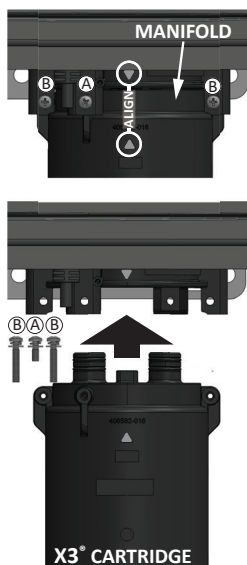

Figure 37 - X3® Cartridge Installation
NOTICE: The X3® cartridge is keyed to only install in one direction. Align the ▲ on the X3® cartridge with the ▼ on the manifold (the bypass cartridge is not keyed and will install in either direction). When inserting the X3® cartridge, push up until the screw holes align. Some resistance is normal. See Figure 37 for reference.
- 4 Remove the two (B) screws and the one (A) screw securing the X3® Cartridge to the manifold located on the underside of the water heater cabinet. Set the screws aside in a safe place for re-installation. Note the order of the screws when removing them. Reference Figure 37.